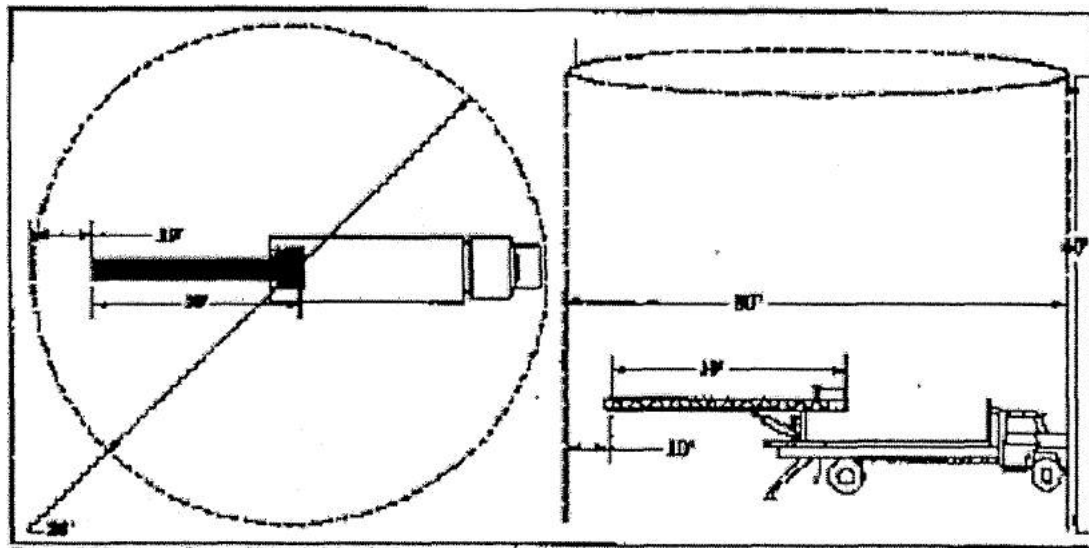

Figure 1-2 Represents the width and height of safety zone
6.) Set up the SAFETY ZONE around the truck as depicted in Fig. 1-2 below by use of ropes, barricades or other suitable means. Think of the SAFETY ZONE as a giant tin can, wide enough to allow for an additional twenty (20) feet in all directions surrounding the truck and twice as tall as the height of the conveyor if it were positioned vertically (directed straight-up). For example, if your conveyor is 30 feet long, the diameter of the can would need to be
twice the length of the conveyor plus the extra ten feet as noted, resulting in a diameter of 80 ft. of the imaginary tin can. The height would necessarily be a full 60 ft. (see fig. 1-2 below). The same safety zone for a 26 ft. conveyor would correspond to a base of 72 feet and a height of 52 ft.